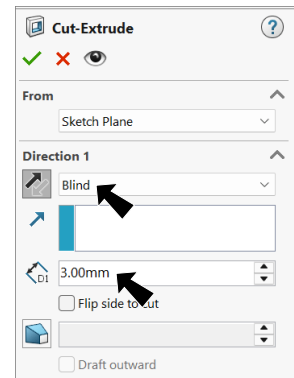

**Fig. 25**
Step 4. Click **Smart Dimension**  (S) on the Sketch toolbar.
Step 5. Dimension **diameter 9.2**, **Fig. 25**.